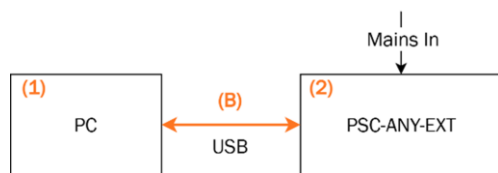

Figure 8.1. Firmware updating configuration
4. Set up the PSC-ANY-EXT as seen in Figure 8.1.